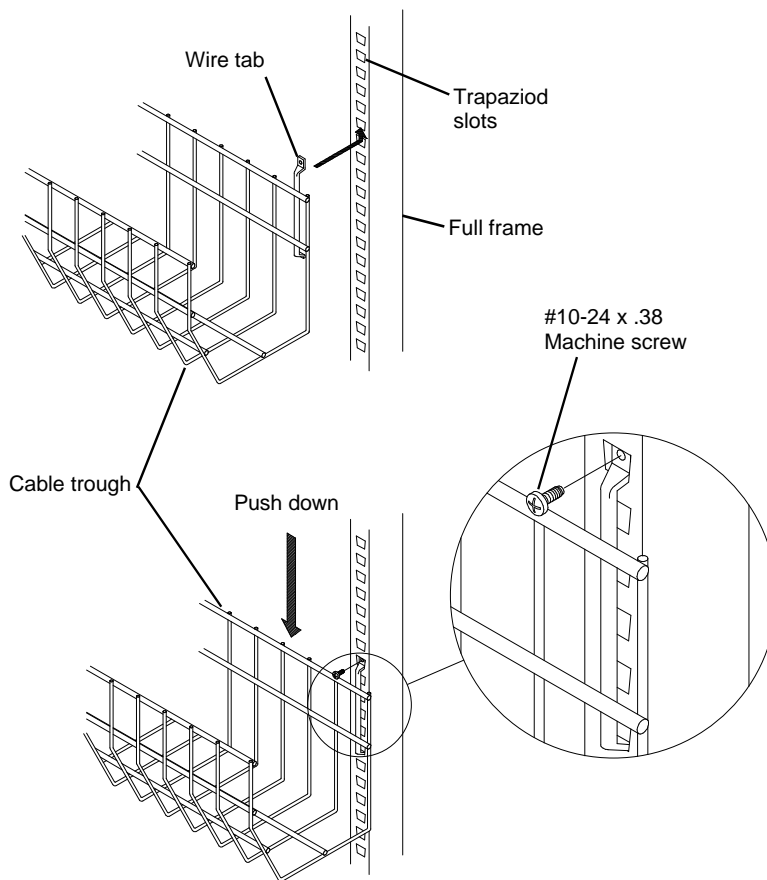

Figure 1
1. To install the **Cable Trough**, insert the wire tabs located at the top of the Trough into the trapezoid holes in the Full Frame. With both sets of tabs in the holes, push the Trough down. Secure using the #10-24 Machine screws provided. See **Figure 1**.